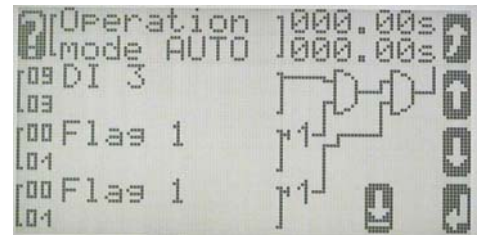

Figure 4-10
With a discrete input (here DI3) from a key switch, the *LogicsManager* flag Operation mode AUTO may be switched to TRUE (Figure 4-10). The operation mode is fixed to AUTO. The unit will start automatically because of mains failure (emergency mode), start in auto (LM), critical mode (LM) or start without load (LM).